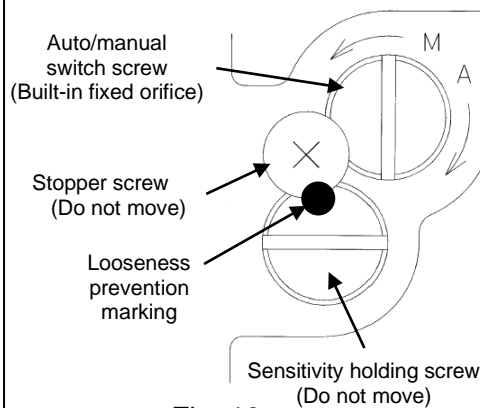

Fig. 18
- \*6: Auto and manual mode can be switched by rotating the pilot valve unit auto/manual switch screw to the manual (M) side as shown in Fig. 18. A small stopper screw in the top is to prevent loosening and must not be tampered with or loosened. Also, a sensitivity holding screw is set prior to factory shipment and must not be accidentally rotated.